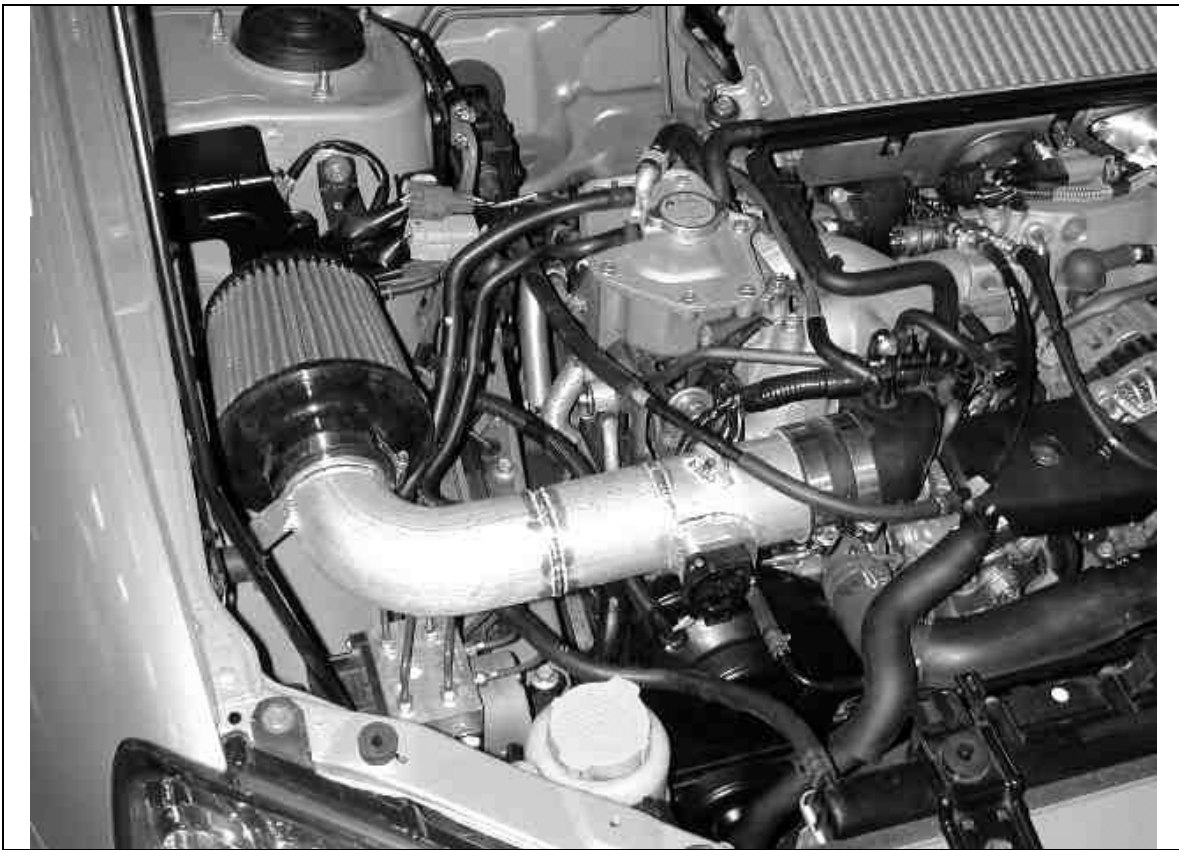

Fig. 13
- m. The AEM® intake system installation should look similar to (Fig. 13).